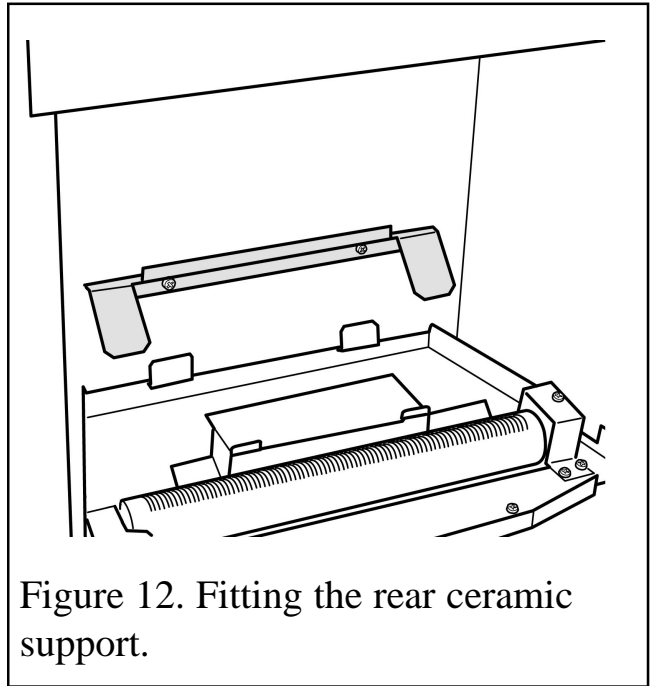

Figure 12. Fitting the rear ceramic support.
7. This appliance is supplied with a rear ceramic support bracket. Fit this using two screws supplied (See figure 12)